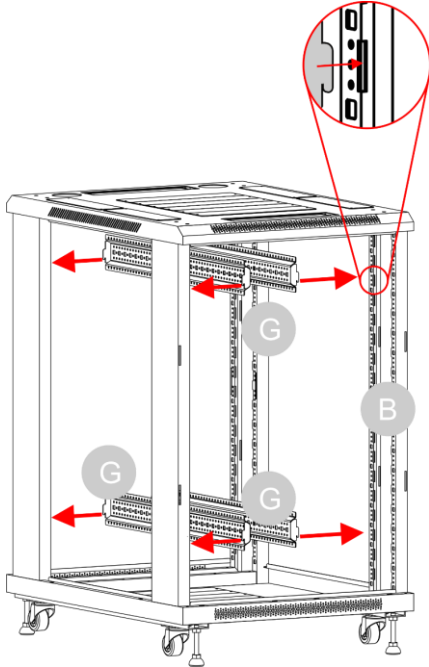

Fig. 29
- 13) Slide the 4 **horizontal brackets (G)** into the holes of the 2 **frames (B)**, as shown in Fig. 29. Make sure that the **horizontal brackets (G)** are installed horizontally and are not inclined.